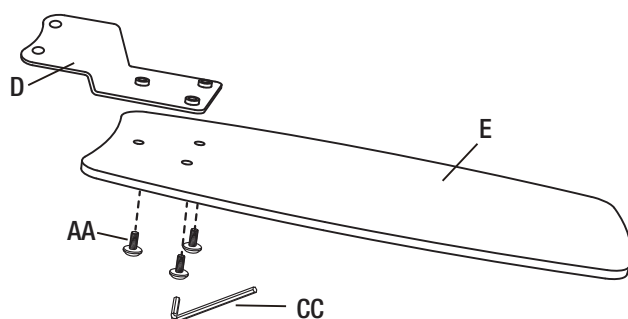

Figure 7
- Mount the blade holders (D) to the fan blades (E) using the hex screws (AA) and install with the Allen key (CC) provided - 3 screws per blade (Figure 7).